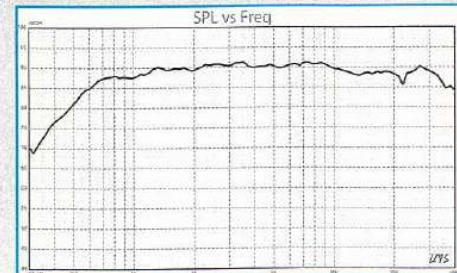
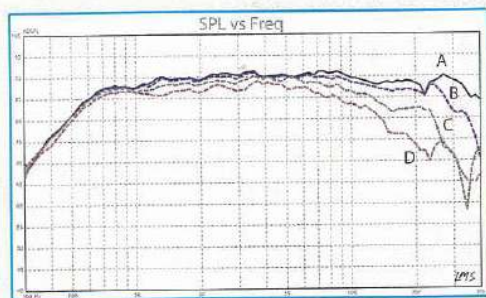
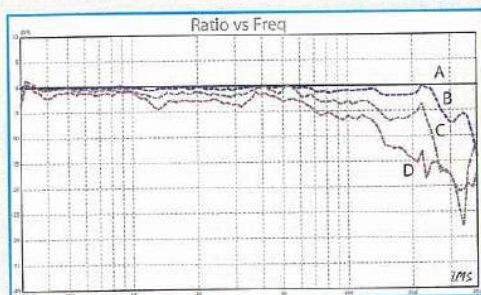
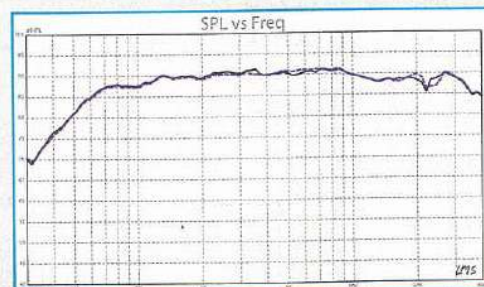

FIGURE 18: D2004/602000 on-axis response.
FIGURE 19: D2004/602000 horizontal on- and off-axis frequency response (A = 0°; B = 15°; C = 30°; D = 45°).
FIGURE 20: D2004/602000 normalized on- and off-axis frequency response (A = 0°; B = 15°; C = 30°; D = 45°).
FIGURE 21: D2004/602000 two-sample SPL comparison.
2.83V/1m with a 100-point gated sine wave sweep from 300Hz to 40kHz. **Figure 18** shows the on-axis response. The frequency response is a very flat and smooth $\pm 1.68\text{dB}$ from 990Hz-13.5kHz and $\pm 2\text{dB}$ from 695Hz to 21.5kHz. **Figure 19** illustrates the on- and off-axis response. Off-axis the device is -3.5dB down at 10kHz from the on-axis response with respect to the 30° off-axis curve and -6.5dB at 45° off-axis, again with respect to the on-axis response. **Figure 20** illustrates the normalized version of **Fig. 19**. In terms of production consistency, the two-sample SPL comparison is depicted in **Fig. 21**, indicating the two samples were well matched with only minor midband variations.